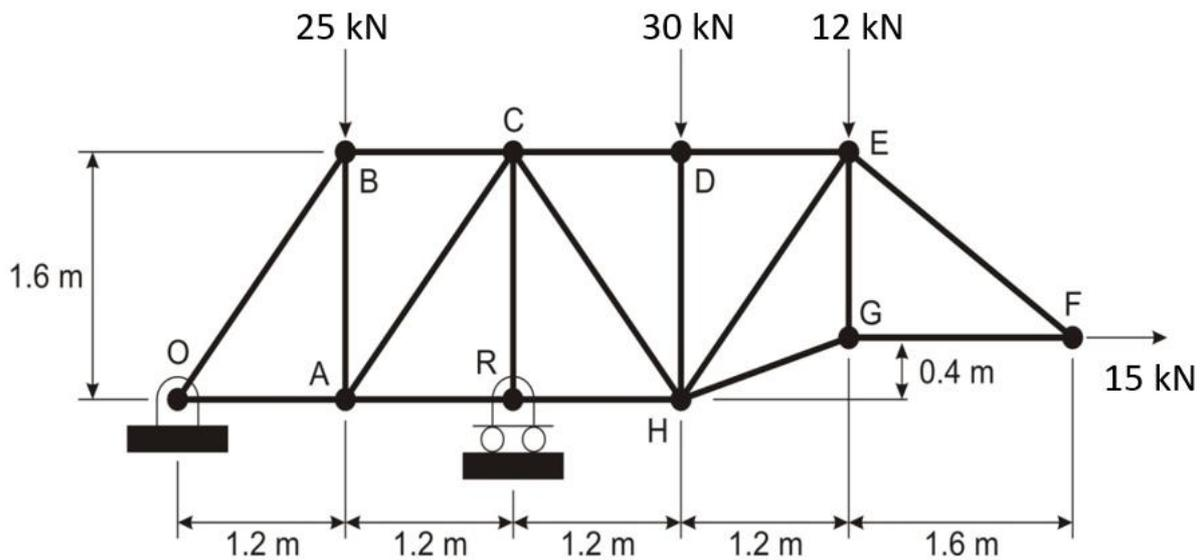

Figure Q1: Representation of pin jointed plane frame
1. Part of a walkway can be approximated by the pin jointed plane frame shown in Figure Q1.